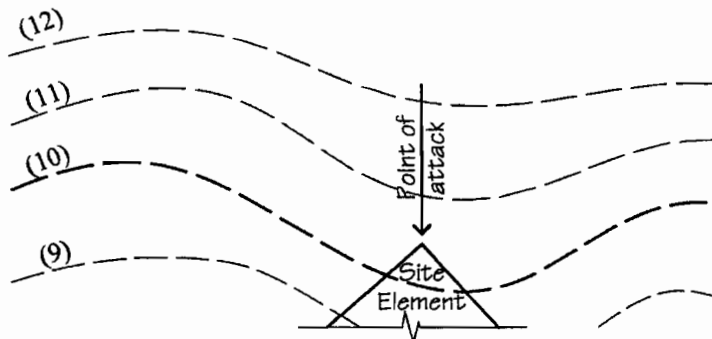

Figure 4-15. Point of Attack
Point of Attack	The point where the existing contour lines that run perpendicular to the site element are in closest proximity to it. See Figure 4-15.
8. Placement of high point swale and its relationship to the point of attack: As a rule-of-thumb, start by placing the high point swale at the point where the contours running perpendicular to the site element are in closest proximity to it, as shown in Figure 4-15 above. However, be flexible on this. Sometimes, as is true with all rules-of-thumb, it may not be desirable, or even possible, to do so due to site variables.
- Determine the point of attack as explained above (refer to Figure 4-15).